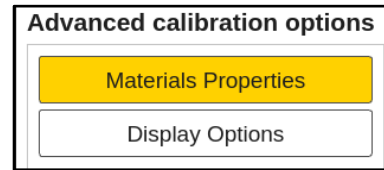

Figure 47: *Advanced calibration options*
The Advanced calibration options display will appear (see Figure 47: *Advanced calibration options*).
Use the up/down arrow keys ▼ ▲ ① to select 'Materials Properties' (see Figure 47: *Advanced calibration options*) and press the OK button ③ from the input panel.